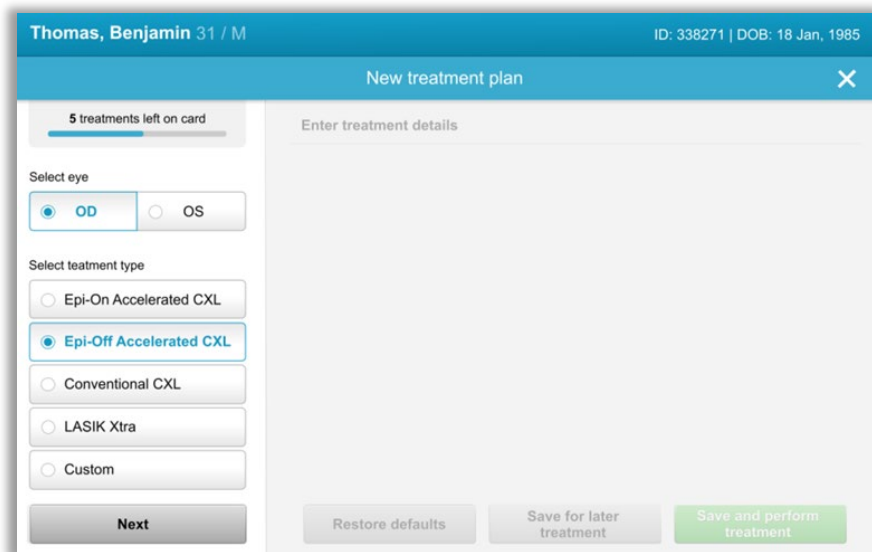

Figure 3-5. Select Eye
- When eye is selected, the field will be outlined in blue as shown in Figure 3-5.